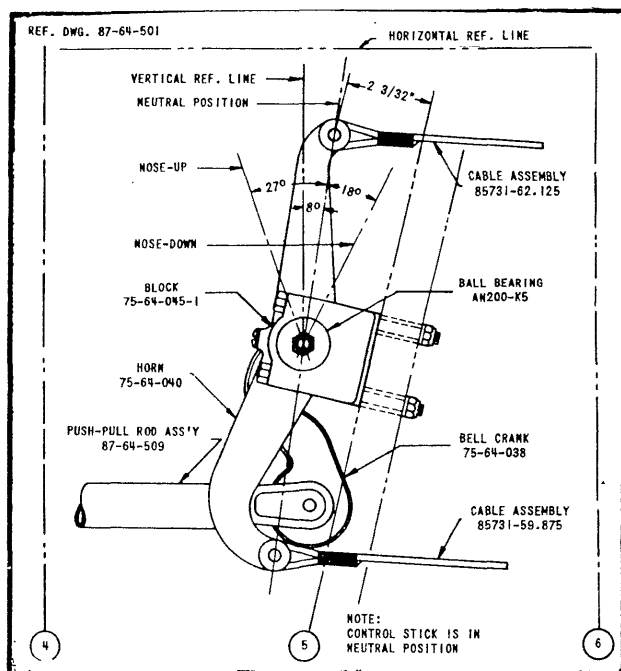
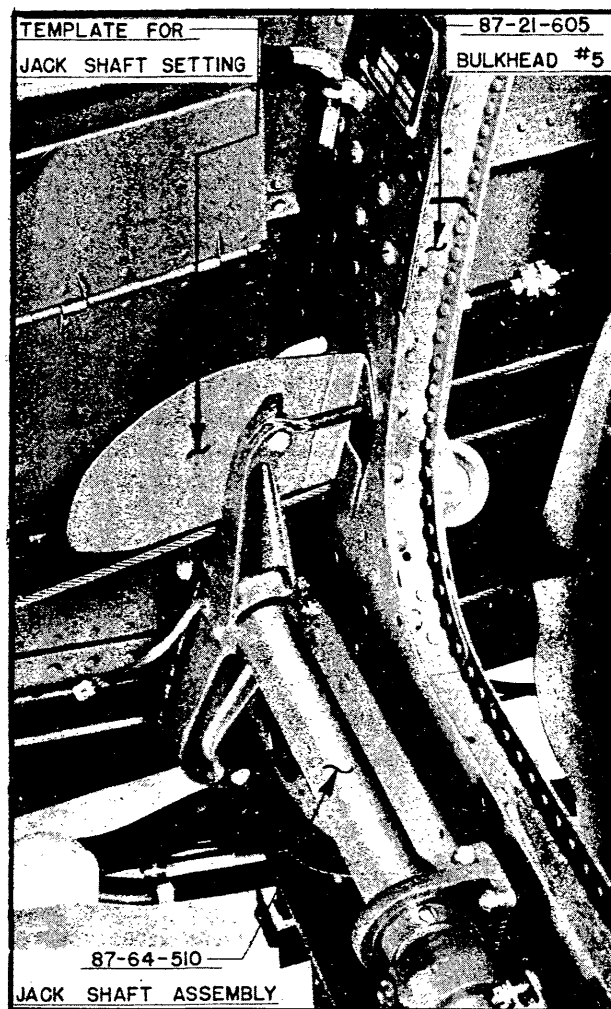

Figure 23 - Flight Controls Jackshaft Setting
Figure 24 - Jackshaft Setting
**Elevator.** - To align the elevator control system the control stick should be placed in the position where the lower (straight) portion of the stick is 1-1/2° aft of the perpendicular to the thrust line; then the control cables are adjusted to align the elevators with the horizontal stabilizer and to obtain correct rigging loads in the cables. For the front jackshaft setting, see figure 23 and figure 24.